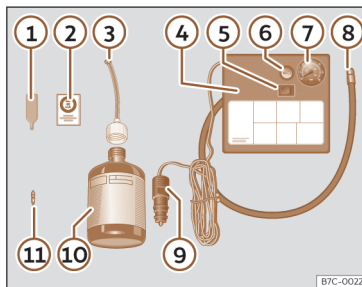

Fig. 239 Standard display: contents of the anti-puncture kit.
The anti-puncture kit is located underneath the floor covering in the luggage compartment. Includes the following components >>> Fig. 239:
- Unscrew the tyre valve cap and insert. Use the device >>> Fig. 239 ① to remove the valve cap. Place it on a clean surface.
- Shake the tyre sealant bottle vigorously >>> **Fig. 239 10**.
- Screw the tyre inflation hose >>> **Fig. 239 3** into the tyre sealant bottle. The bottle's seal will break automatically.
- Remove the filler cap >>> **Fig. 239 3** and screw the open end of the tube into the tyre valve.
- Replace the howitzer with the device >>> **Fig. 239 1** onto the tyre valve.
- Screw the tyre inflation tube of the compressor >>> **Fig. 239 8** on the tyre valve.
- Check that the air evacuation screw is closed >>> **Fig. 239 6**.
- Attach the connector >>> **Fig. 239 9** to the vehicle's 12 volt power outlet >>> page 228.
- Switch on the air compressor with ON/OFF switch >>> **Fig. 239 5**.
- Attach the sticker >>> **Fig. 239 2** to the instrument panel display, within the driver's field of vision.
Screw in the inflator tube >>> **Fig. 239 8** again and check the pressure on the gauge **7**.